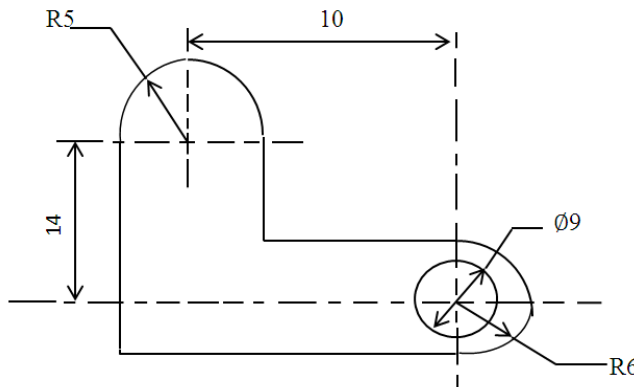

fig.3
Q.9 a) Find out centre of pressure to blank a piece shown in figure 3
- Q.8 a) Design either progressive or compound die to blank the workpiece shown in figure3 Thickness 16